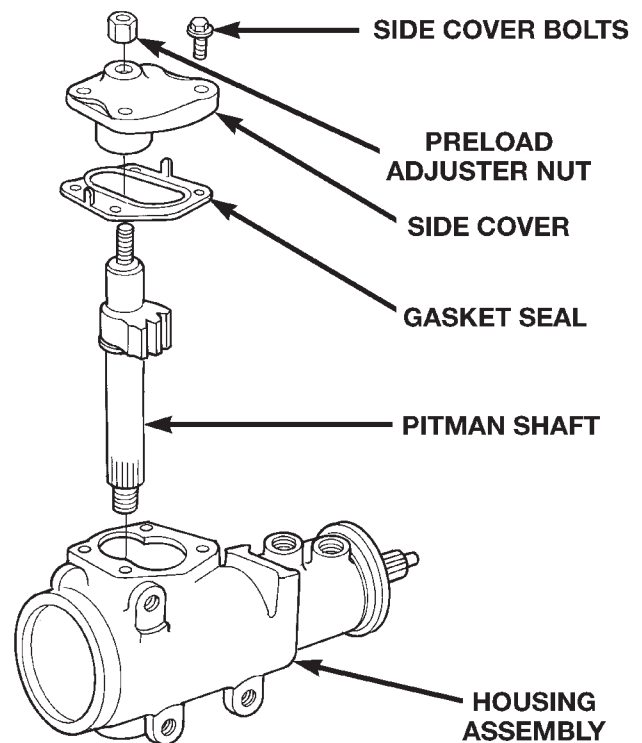

Fig. 6 Side Cover and Pitman Shaft
(1) Clean exposed end of pitman shaft and housing with a wire brush.
(2) Remove preload adjuster nut (Fig. 6).
(3) Rotate the stub shaft with a 12 point socket from stop to stop and count the number of turns.
(4) Center the stub shaft by rotating it from the stop 1/2 of the total amount of turns.
(5) Remove side cover bolts and remove side cover, gasket and pitman shaft as an assembly (Fig. 6).
- (1) Install pitman shaft bearing into housing with a bearing driver and handle.
- (2) Coat the oil seal and washer with **special grease** supplied with the new seal.
- (3) Install the oil seal with a driver and handle.
- (4) Install backup washer.
- (5) Install the retainer ring with snap ring pliers.
- (6) Coat the dust seal with **special grease** supplied with the new seal.
- (7) Install dust seal with a driver and handle.
- (8) Install pitman shaft to side cover by screwing shaft in until it fully seats to side cover.
(9) Install preload adjuster nut. **Do not tighten nut until after Over-Center Rotation Torque adjustment has been made.**
(10) Install gasket to side cover and bend tabs around edges of side cover (Fig. 6).
(11) Install pitman shaft assembly and side cover to housing.
(12) Install side cover bolts and tighten to 60 N-m (44 ft. lbs.).
(13) Perform over-center rotation torque adjustment.